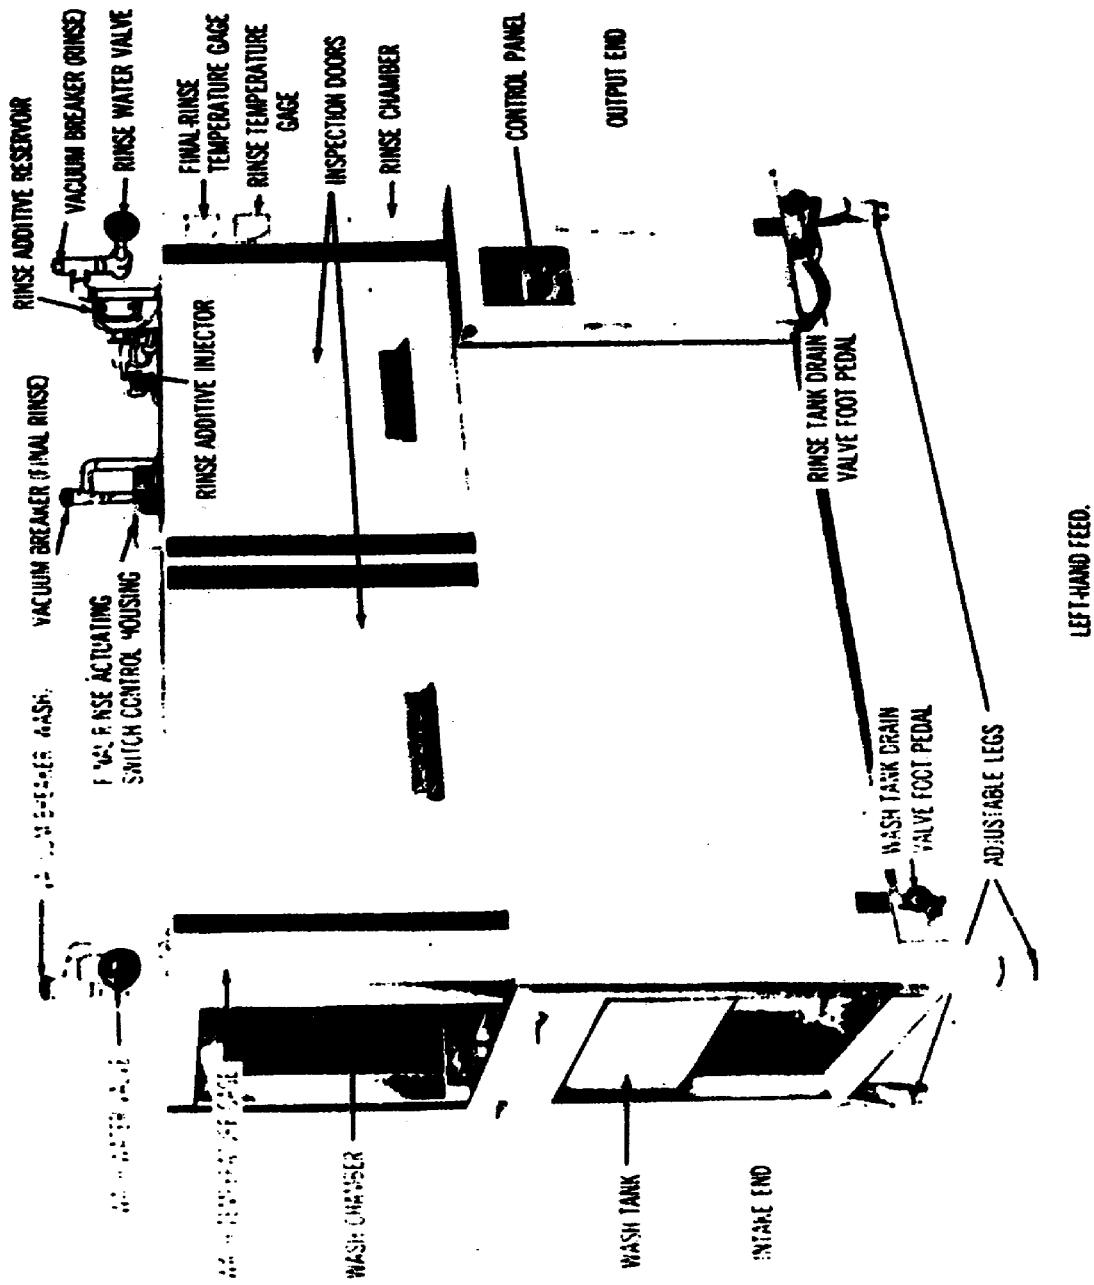

Figure 27. Dual-tank dishwashing machine with left hand feed.
26. **DUAL-TANK DISHWASHING MACHINE.** The dual-tank dishwashing machine (fig. 27) is similar to the single-tank machine, but the dual-tank machine has separate wash and rinse tanks with a splash curtain between them, and the racks of dishes are moved through the machine automatically on a conveyor chain instead of manually. The wash-water temperature is kept between 150° and 160° F, and the rinse water is kept at a minimum of 170° F. The dual-tank machine has an additional curtain rinse as its final phase. In the curtain rinse, water is sprayed evenly across the width of the conveyor from above and below. The temperature of the water must be at least 180° F; if the water temperature falls below 180° F, the machine will cut off automatically.